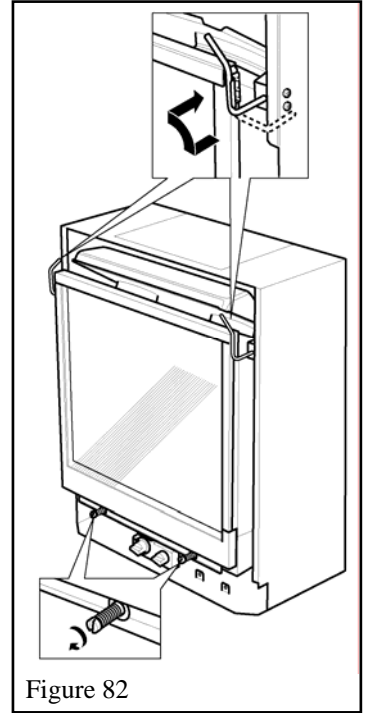

Figure 82
2. Pull the clamping bars forward and rotate inwards to secure the top of the window. See figure 82
3. Fit the two spring loaded bolts through the bottom of the window and tighten to secure the bottom of the window. See figure 82.